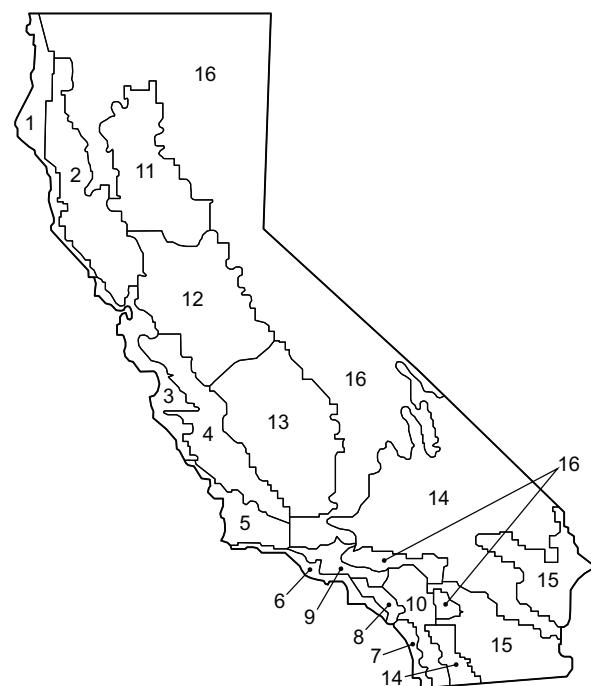

Fig. 89 — California Title 24 Zones
- Refer to Fig. 89 for map of California Title 24 zones.